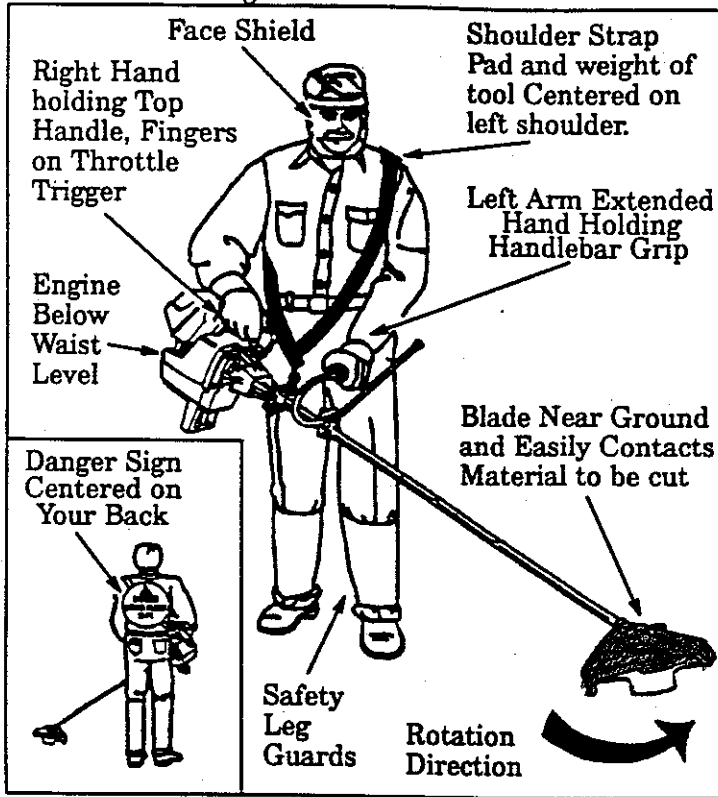

Figure 8
- b. Place Shoulder Strap on your left shoulder with the Danger Sign on your back and hook to the right side of your waist. Figure 8 .
- d. Fasten the Shoulder Strap hook to the clamp and lift the tool to the operating position. Figure 8 .